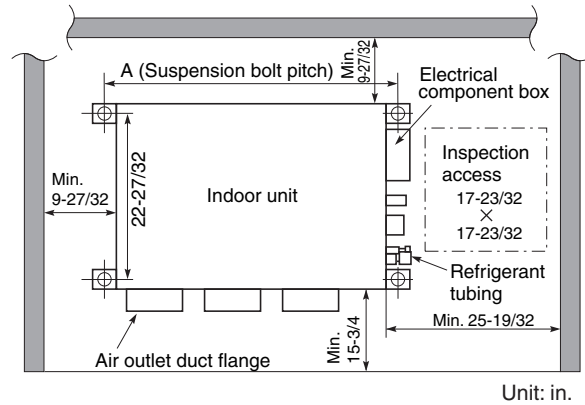

Fig. 3-84
- The minimum space for installation and service is shown in Fig. 3-84 and Table 3-3.
- (1) When placing the unit inside the ceiling, determine the pitch of the suspension bolts referring to the dimensional data on the previous page. (Fig. 3-84 and Table 3-3)